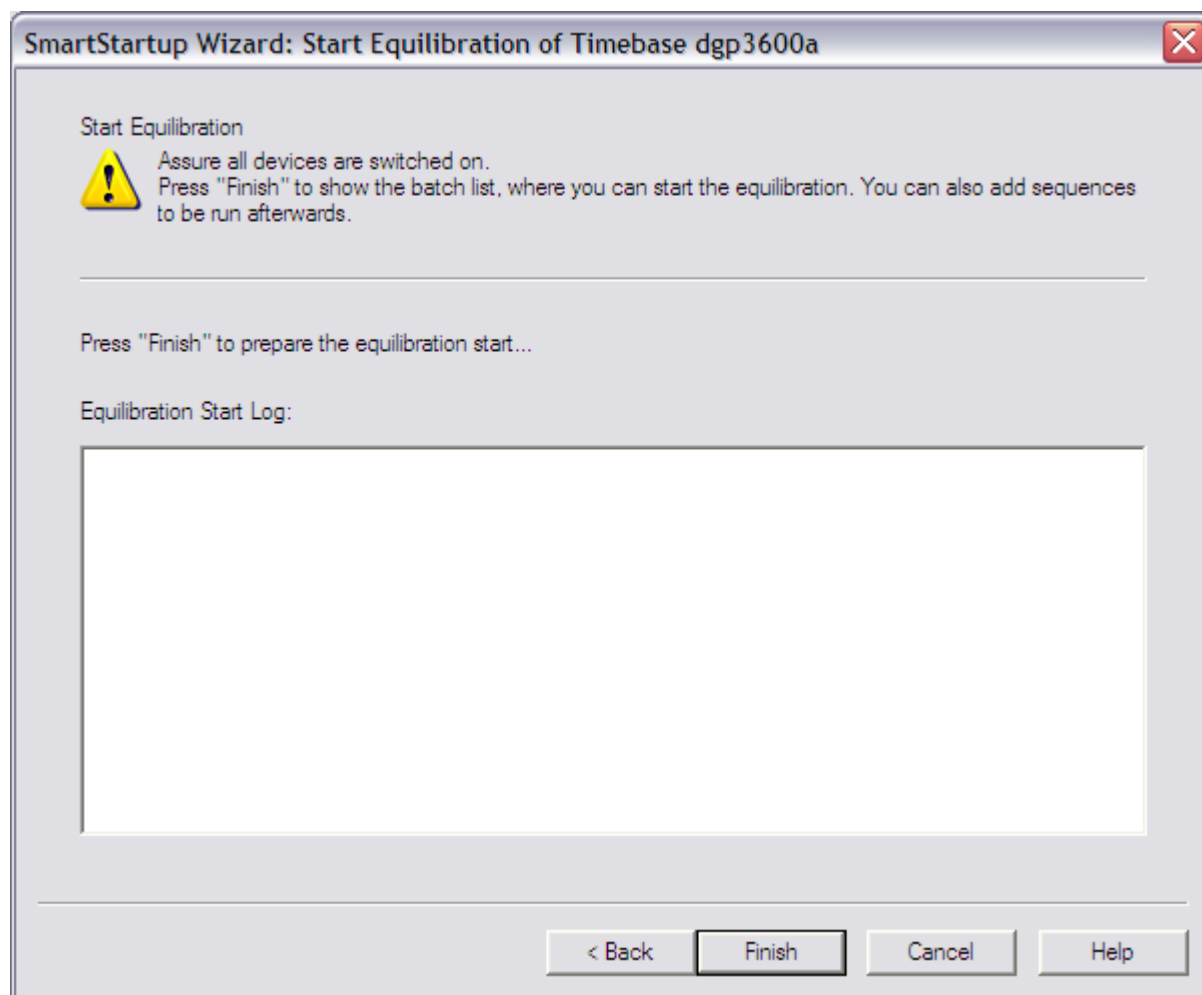

FIGURE 8-11: SmartStartup wizard – warning before starting the equilibration of the system
- If all the equilibration settings for the devices are finalized, click **Next** in the equilibration settings for the system devices (FIGURE 8-6). Make sure that all devices are switched on before the equilibration is started (FIGURE 8-11).